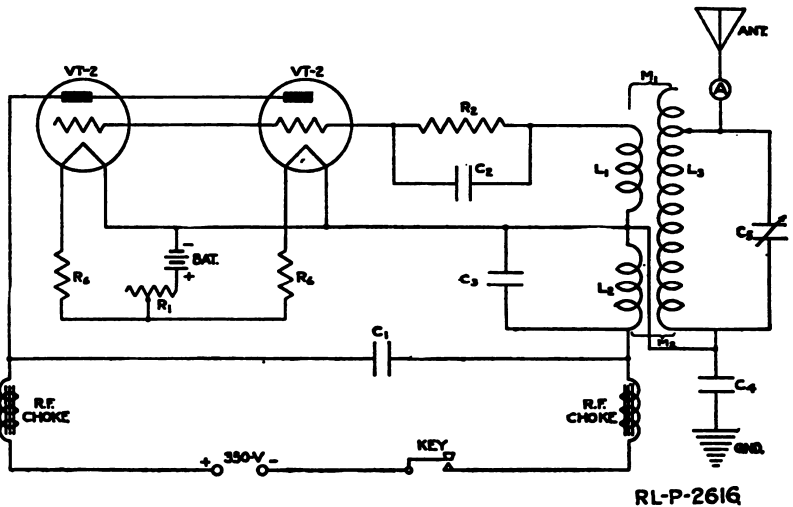

Fig. 71.—Schematic diagram of connections in the transmitter of the SCR-79-A set.
- (16) What is the purpose of the switch "S2" on the front of the panel?
- (17) How is the transmitted wave length varied?
- (18) Is the filament current of the transmitting tubes fixed? Explain the answer.
- (19) For what are the two binding posts marked "+300 V" and "-300 V" used?
- (20) What connection is made to the two binding posts marked "+Dyn" and "-Dyn"?
(22) *What is the purpose of the "Wave length adjustment" condenser? (See Fig. 71.)*